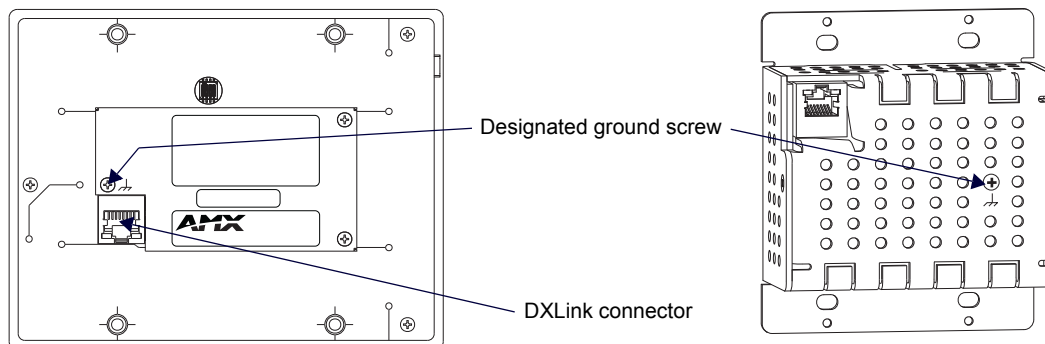

FIG. 24 Wallplate TX and Decor Wallplate TX - Remove ground screw and washer
- Remove the ground screw and washer for the applicable unit, as indicated in FIG. 24.